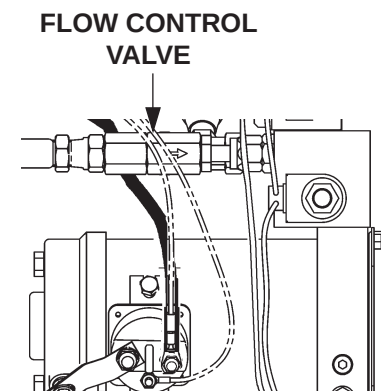

FIG. 44-3
3. Check and clean Flow Control Valve (**FIG. 44-3**) in high pressure hydraulic line connected to Pump. When installing Flow Control Valve make sure arrow on valve is oriented as shown in **FIG. 44-3**.